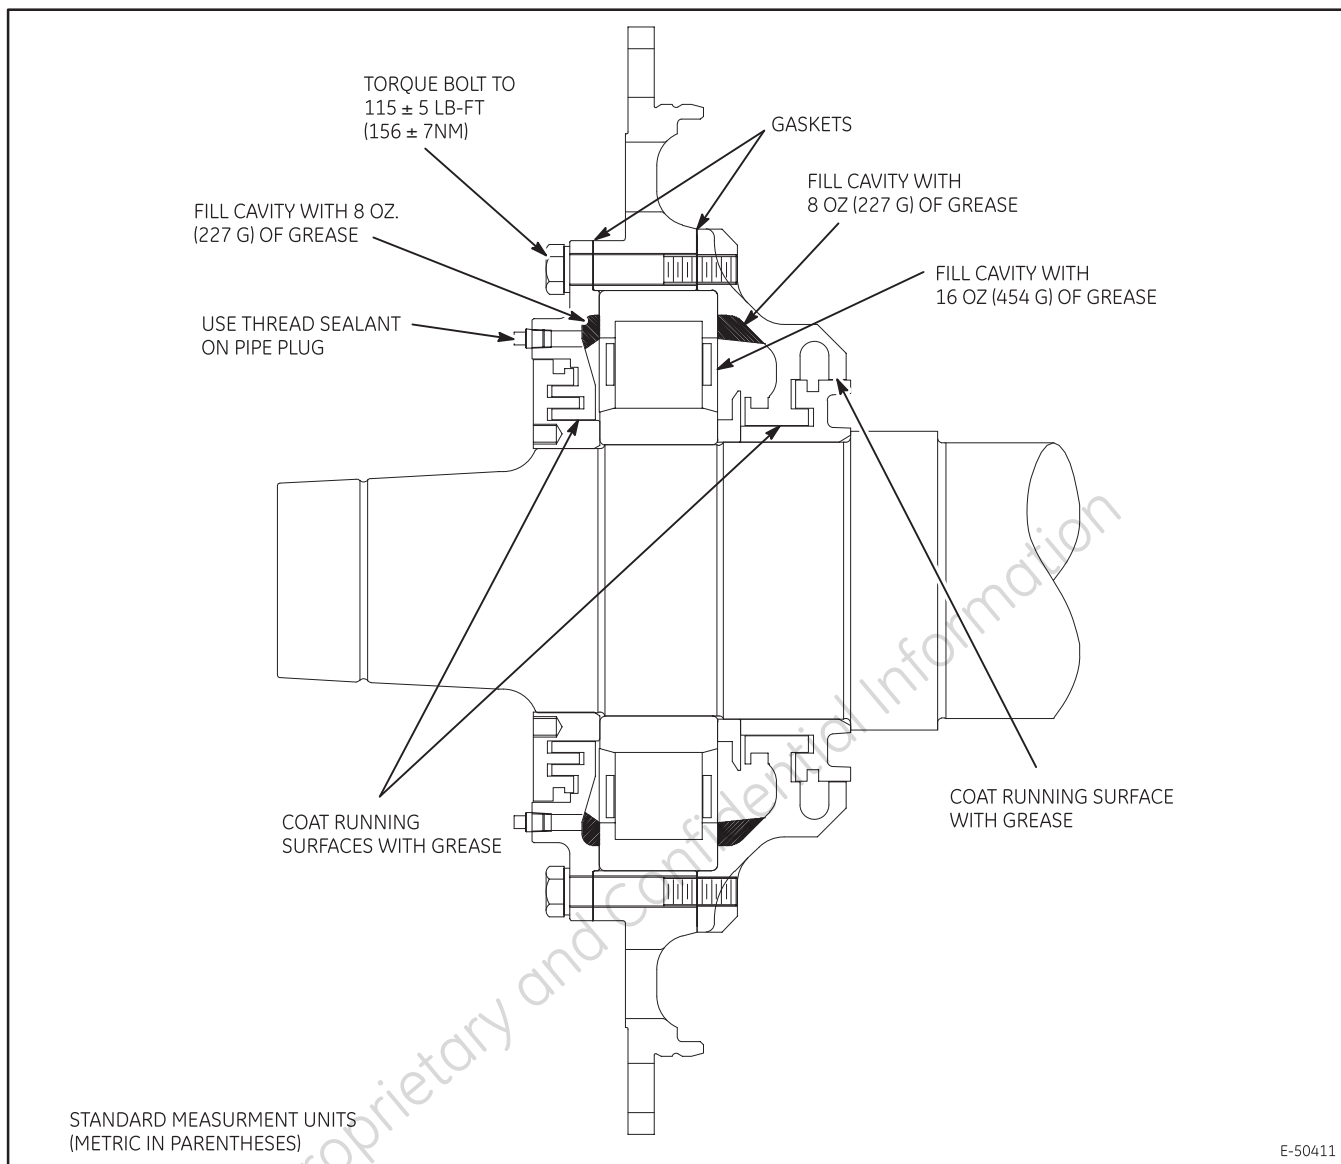

Figure 10. 5GEB22 Drive End (DE) Bearing Assembly.
The following procedures details the drive end (DE) bearing assembly ( Figure 10 ) removal. To remove the DE bearing assembly: